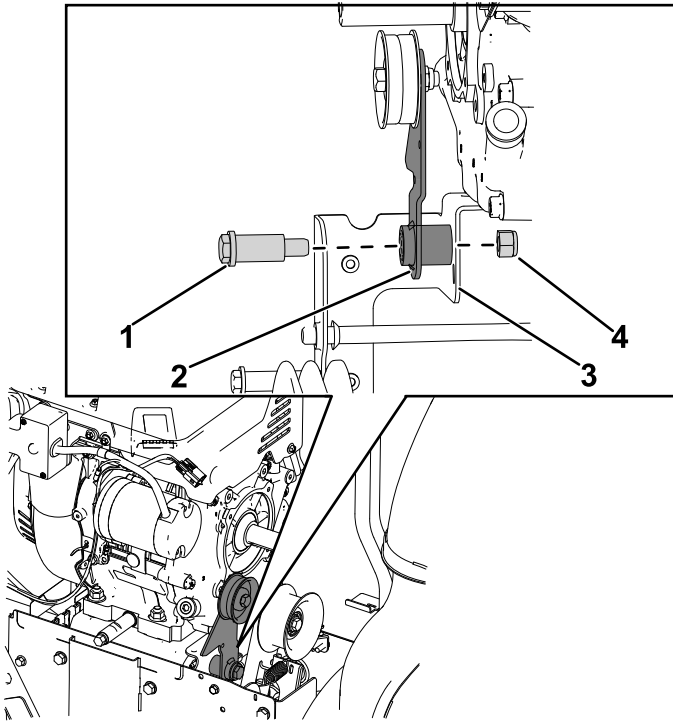

Figure 9
3. Remove the nut (7/16 inch) and shoulder bolt (7/16 x 1-3/4 inch) securing the traction idler arm to the brake clutch bracket (Figure 9).